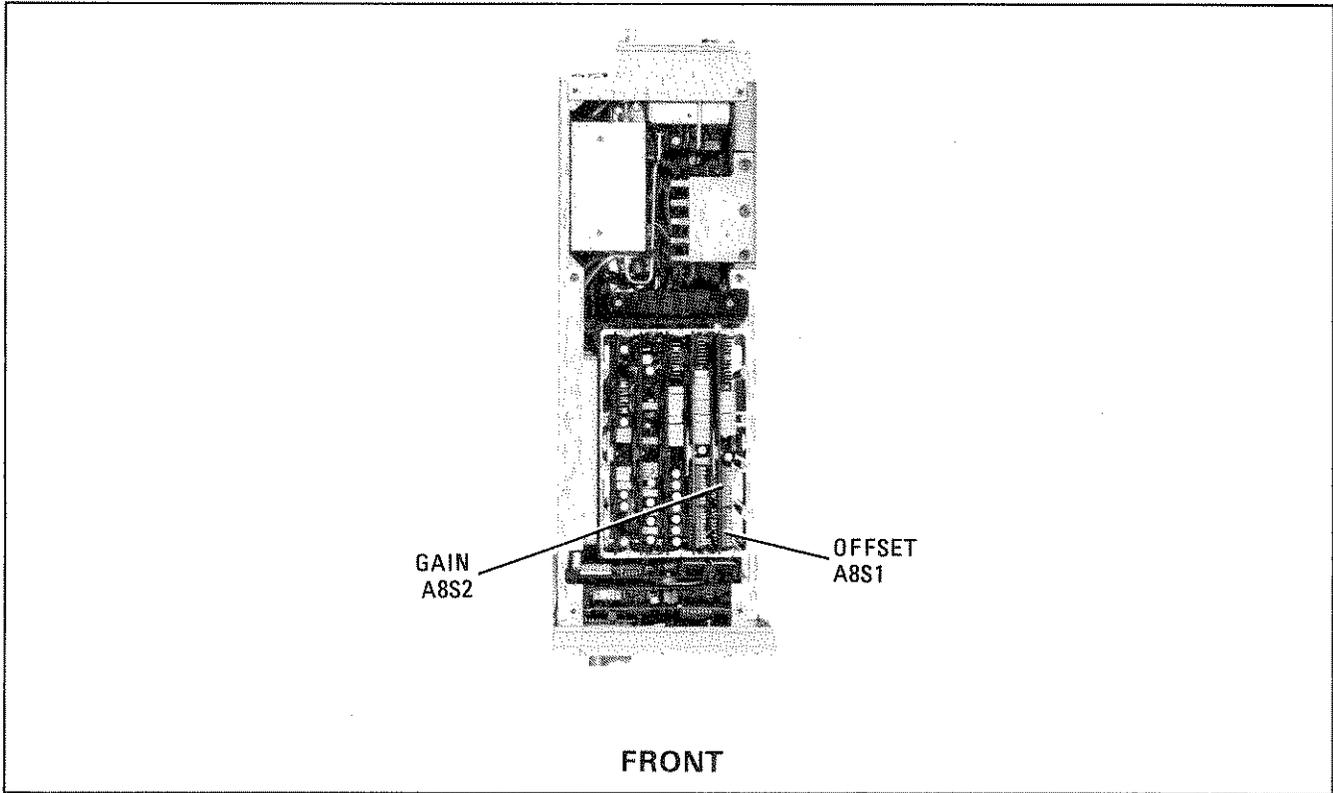
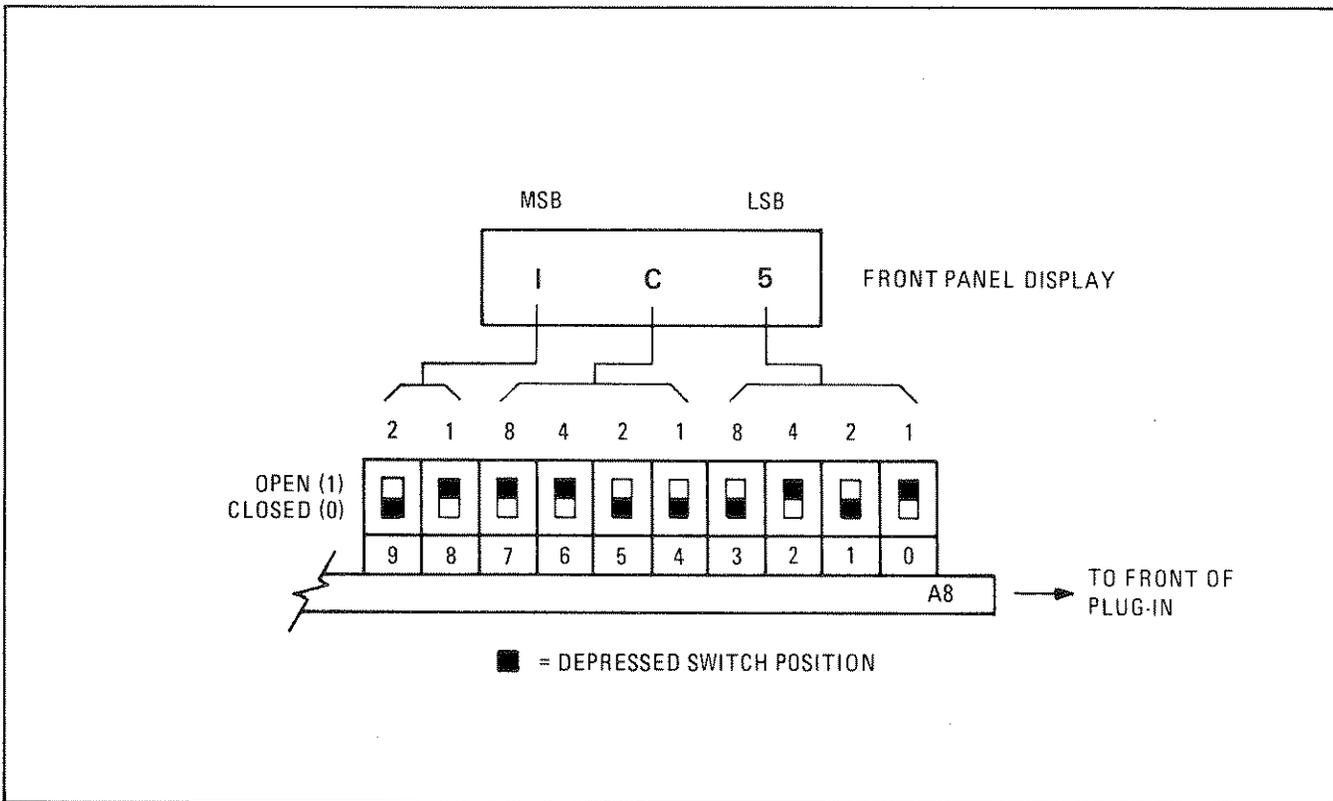

Figure 5-10. Frequency Calibration Switch Locations
Figure 5-11. A8S1 and A8S2 Frequency Calibration Switch Configuration
9. Set switch A8S1 for the hexadecimal value displayed in the 83595A POWER display. Refer to Figure 5-10 for the location of the frequency calibration switches. Refer to Figure 5-11 for an illustration of the calibration switch configuration.